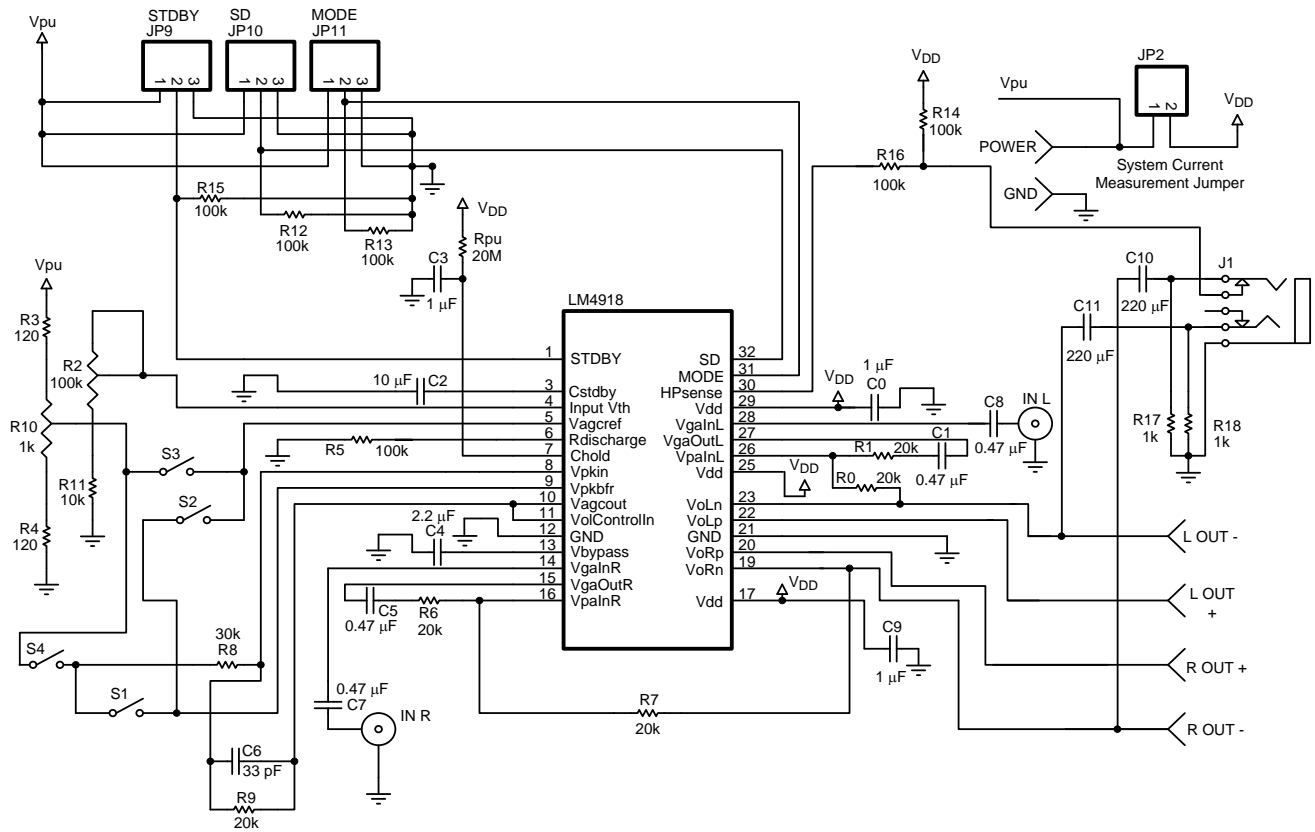

Figure 28. REFERENCE DESIGN BOARD SCHEMATIC
Figure 28 shows the implementation of the LM4918's headphone sense function. With no headphones connected to the headphone jack, the R14-R17 voltage divider sets the voltage applied to the HP Sense pin (pin 30) at approximately 50mV. This 50mV enables the second amplifiers, placing the LM4918 in bridged mode operation. The output coupling capacitor blocks the amplifier's half supply DC voltage, protecting the headphones.
Figure 28 also shows the suggested headphone jack electrical connections. The jack is designed to mate with a three-wire plug. The plug's tip and ring should each carry one of the two stereo output signals, whereas the sleeve should carry the ground return. A headphone jack with one control pin contact is sufficient to drive the HP Sense pin when connecting headphones. A microprocessor or a switch can replace the headphone jack contact pin. When a microprocessor or switch applies a voltage greater than 4V to the HP-IN pin, a bridge-connected speaker is muted and the first set of amplifiers drive a pair of headphones.
The LM4918 also incorporates a peak-detect function to properly monitor output level in conjunction with the AGC. This peak detect function may be set for positive or negative detect, based on the users preference. On the demo board, shown in Figure 28, both circuits are available for testing. The normal, positive peak detect, is engaged by inserting jumpers at S1 and S3, while removing jumpers at S2 and S4. The negative peak circuit is described by jumpers in place on S2 and S4, while removed from S1 and S3. Operating in the negative manner places the V_{pk_Bfr} directly to V_{agcRef}, and makes V_{pk_in} the effective AGC gain reference voltage. Keep in mind this will reverse the voltage values used for a given AGC gain level as compared to V_{agcRef} values.
Amplifying the lowest audio frequencies requires high value input coupling capacitor (C7 and C8 in Figure 28). A high value capacitor can be expensive and may compromise space efficiency in portable designs. In many cases, however, the speakers used in portable systems, whether internal or external, have little ability to reproduce signals below 150Hz. Applications using speakers with this limited frequency response reap little improvement by using large input capacitor.
As an example when using a speaker with a low frequency limit of 150Hz, C_i , using Equation 7 is 0.063 μ F. The 0.49 μ F C_i shown in Figure 28 allows the LM4918 to drive high efficiency, full range speaker whose response extends below 20Hz.
Amplifying the lowest audio frequencies also requires the use of a high value output coupling capacitor (C10 and C11 in Figure 28). A high value output capacitor can be expensive and may compromise space efficiency in portable design. The speaker load (R) and the output capacitor (C) form a high pass filter with a low cutoff frequency determined using Equation 7.
When using a typical headphone load of $R_L = 32\Omega$ with a low frequency limit of 50Hz, C_O is 99 μ F. The 200 μ F C_O shown in Figure 28 allows the LM4857 to drive a headphone whose frequency response extends below 50Hz.